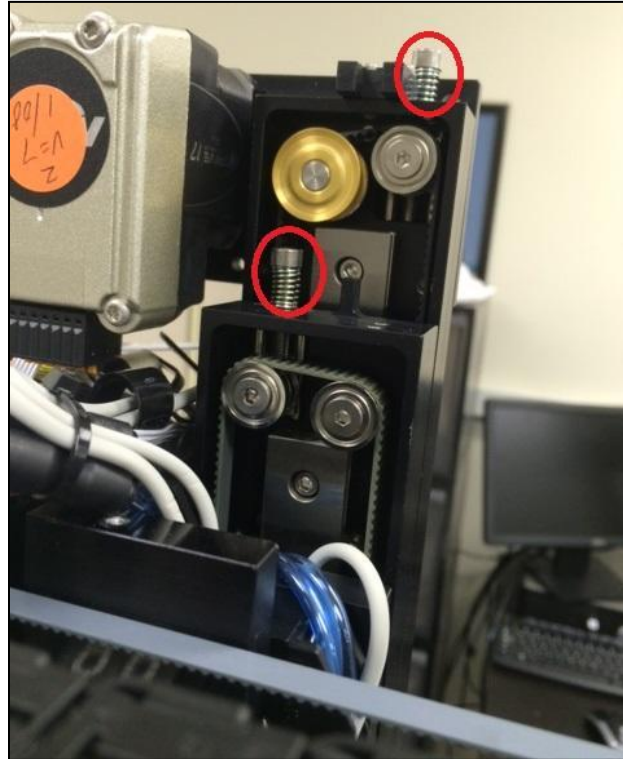

Figure 3.
4. At the top of the Z-axis are two stainless steel screws with springs around them, circled in Figure 3 below.